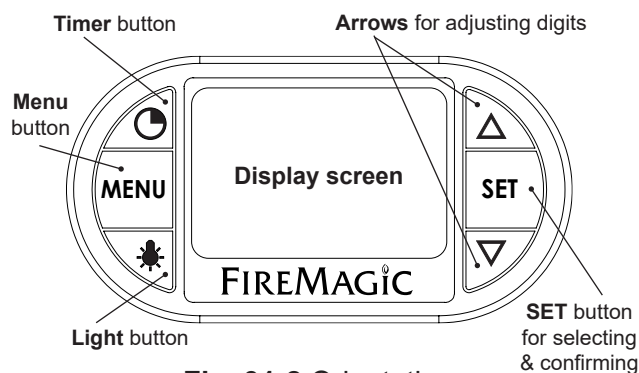

Fig. 31-2 Orientation
Read the following sections completely regarding thermometer operation. Refer to Fig. 31-2 for thermometer orientation and button locations.
1. Press the light button to turn both the interior oven lights and knob backlights ON (see Fig. 31-2). The interior oven lights will remain ON when the hood is closed (for use of the Magic View window).